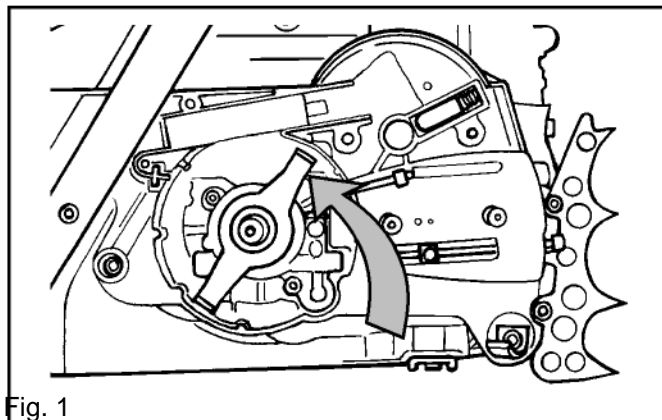

Fig. 1
3. Unscrew the drive wheel. See fig. 1.
- Metering unit, A in fig. 1.